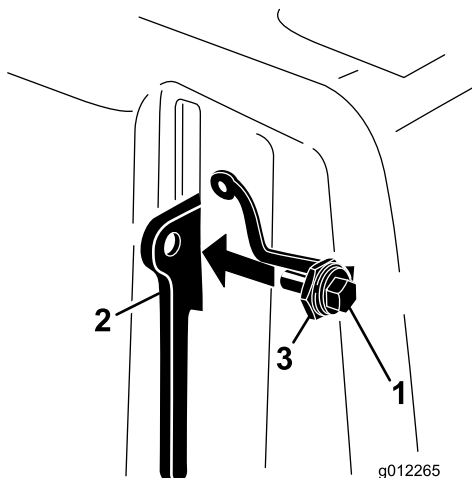

Figure 11
3. Thread the bolt into the belt cover latch lever (Figure 11).